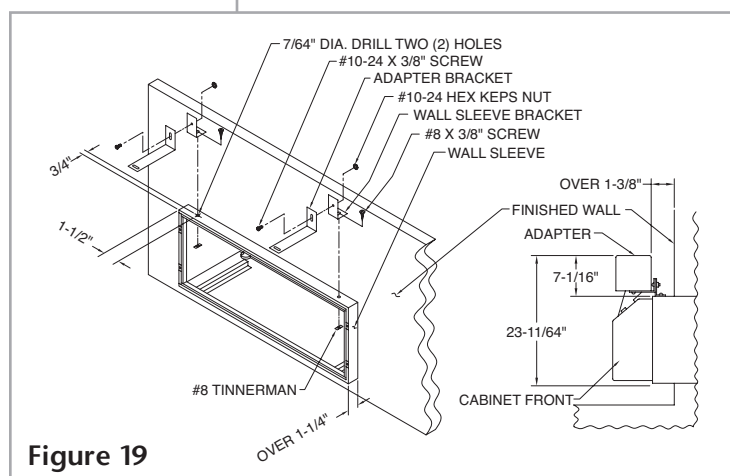

Figure 19
1. Assemble each adaptor bracket to the wall sleeve bracket with screws and nuts provided. (See **Figure 19**.)